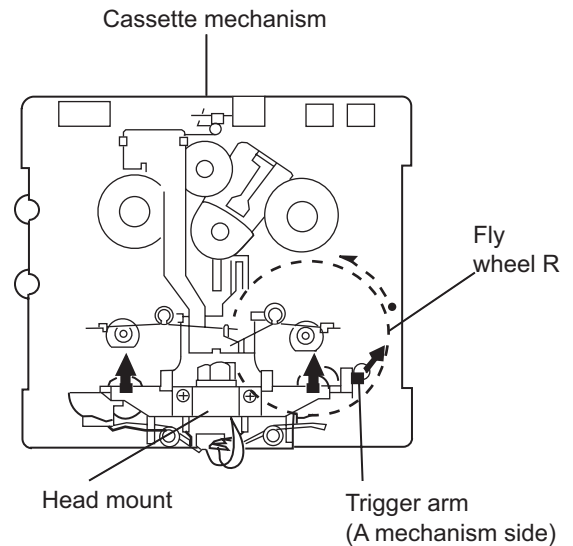
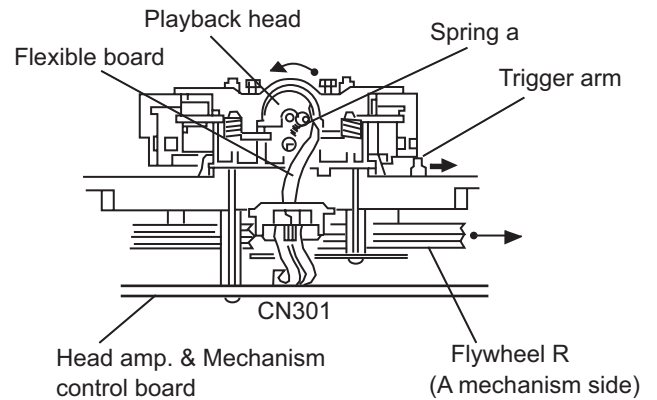
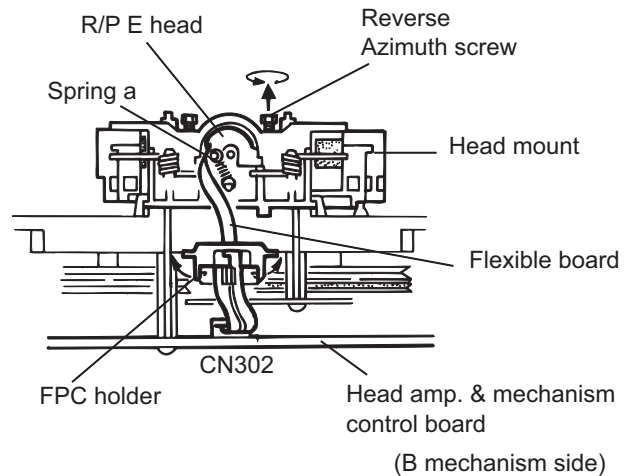

Fig.1
Fig.2
Fig.3
(See Fig. 1 to Fig. 3)
- (1) While shifting the trigger arms seen on the right side of the head mount in the arrow direction, turn the flywheel ( R ) in counterclockwise direction until the head mount has gone out with a click (See Fig. 1).
- (2) When the flywheel ( R ) is rotated in counterclockwise direction, the playback / recording & eraser head will be turned in counterclockwise direction from the position in Fig. 2 to that in Fig. 3.
- (3) At this position, disconnect the flexible board (outgoing from the playback / recording & eraser head) from the connector CN31 on the head amplifier & mechanism control board.
- (4) Remove the flexible board from the chassis base.
- (5) Remove the spring a from behind the playback / recording & eraser head.
- (6) Loosen the reversing azimuth screw retaining the playback / recording & eraser head.
- (7) Take out the playback / recording & eraser head from the front of the head mount.
- (8) The playback / recording & eraser head should also be removed similarly to steps 1 to 7 above.